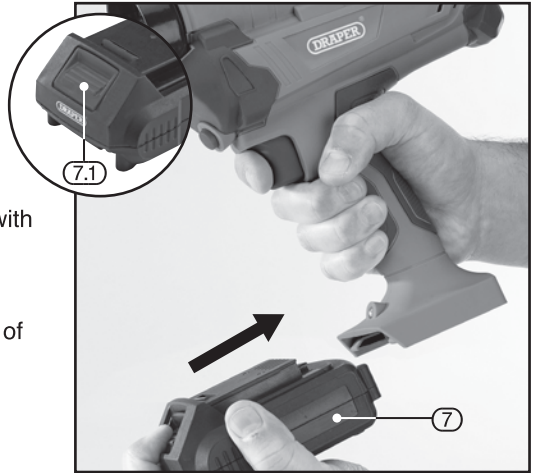

FIG.1
8.1 BATTERY PACK CHARGING – FIGS. 1 – 2
- Press the battery release button (7.1) and gently slide the battery pack off (Fig.1).
- Plug the battery charger (8) unit into a 230V/AC 13amp three pin supply socket.